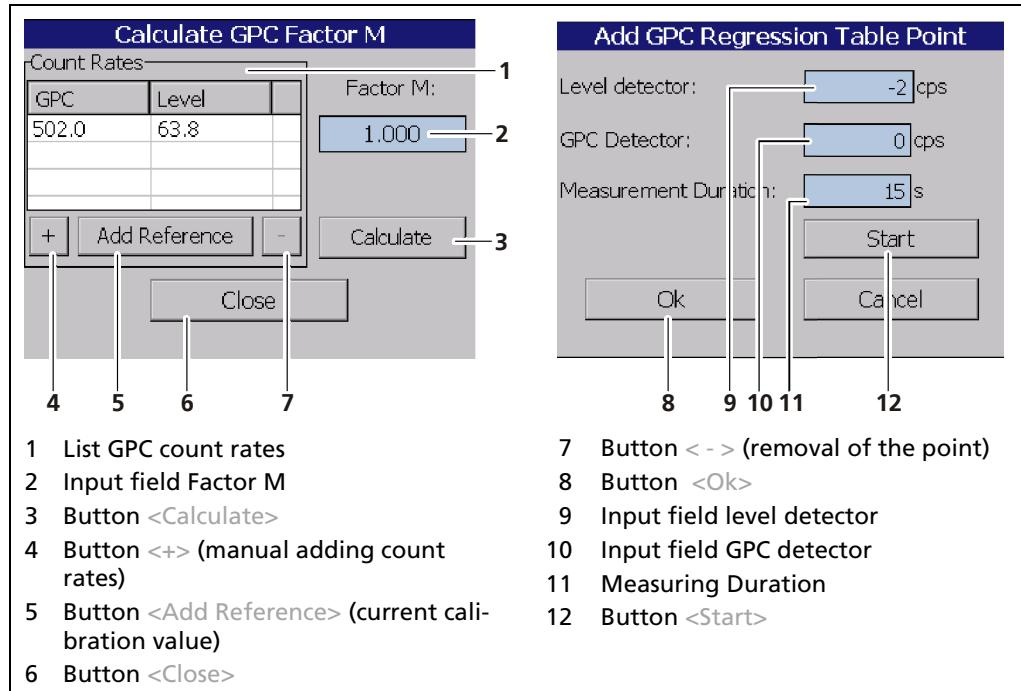

Fig. 96 GPC Calibration: Calculate factor M
To calculate the correct factor M, click on the input field for the factor M. In this table the first calibration point can be inserted directly from the available data with the button < Add Reference > (Fig. 96, item 5). At least one more point is required to calculate a factor M. This second point is ideally taken at the highest occurring gas density. Further table points with other gas densities improve the accuracy of Factor M. With the button < Calculate > (Fig. 96, item 3) the factor M is calculated from the table values.
- a) Click on the <+> button (Fig. 96, item 4) to add a new point. For this, the pressure in the container must be changed.
- b) Click on the input field "Read-In-Time" (Fig. 96, item 11) and enter a measurement time. Confirm with the Enter key.
2. Click on the button <Start> (Fig. 96, item 12). Make sure that the actual level in the container does not rise above 0% during the measurement time.
The "Factor M" (Fig. 96, item 2) is close to 1 (default value) for standard applications.
1. Click the button < Calculate > (Fig. 96, item 3) to determine Factor M from the count rate table.
- ▶ Factor M has been calculated and is displayed in the input field (Fig. 96, item 2).